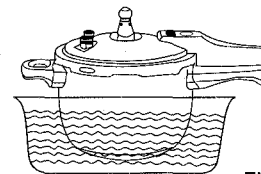

Figure 12
b. To speed up the cool-down course with cold water. (Figure 12)